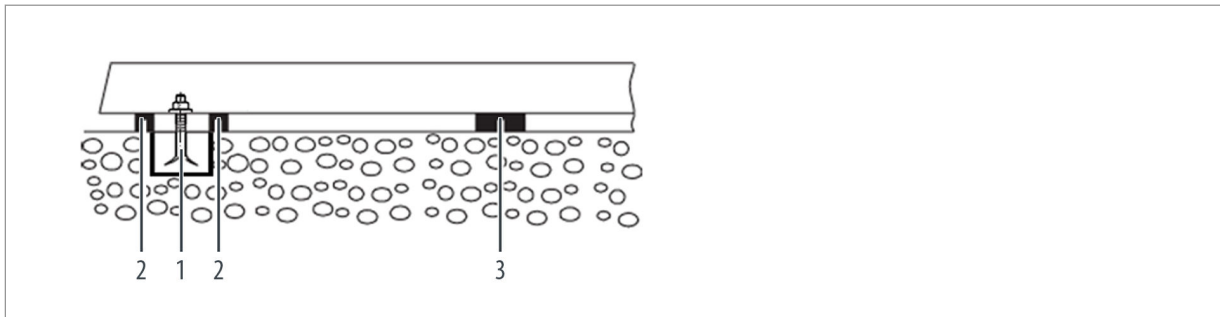

Fig. 13: Placing the pump assembly on the foundation
3. ➔ Hook the foundation bolts (no. 1 in Fig. 13) into the base plate fastening holes from below.
5. ➔ Sink the foundation bolts (No. 1 in Fig. 13) into the prepared anchor holes.
- Place one steel fixture (No. 2 in Fig. 13) to the left and right of each foundation bolt (No. 1 in Fig. 13) respectively
- If the distance from the anchor holes is greater than 750 mm, locate additional steel fixtures (No. 3 in Fig. 13) centrally on either side of the base plate